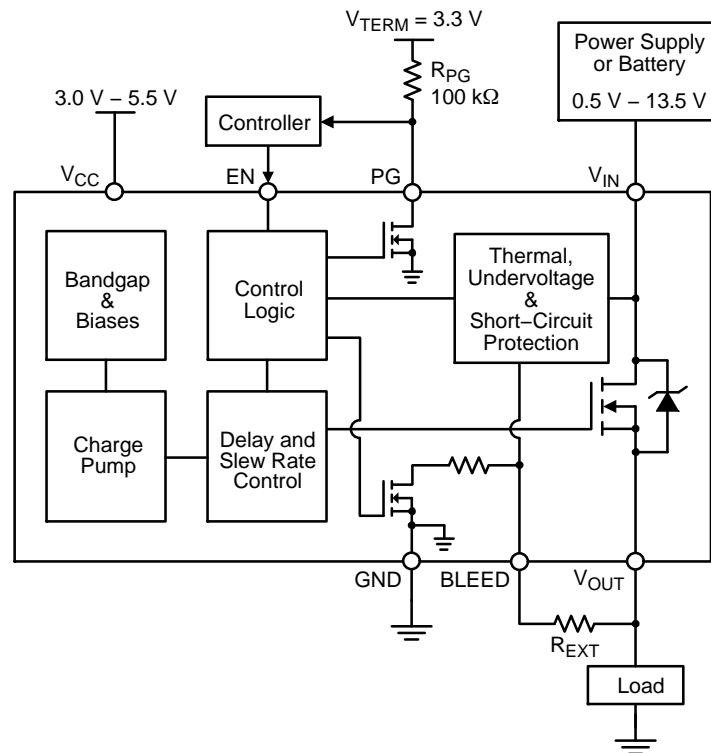
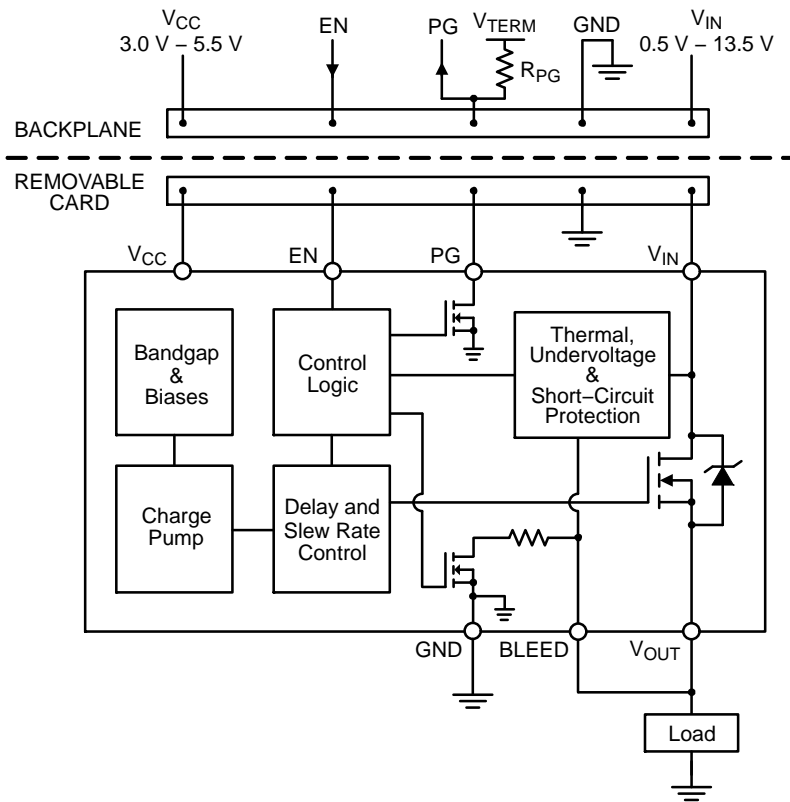

Figure 3. NCP45522 Typical Application Diagram – Load Switch
Figure 4. NCP4522 Typical Application Diagram – Hot Swap
It is required that the BLEED pin be connected to V_{OUT} either directly (as shown in Figures 4 and 7) or through an external resistor, R_{EXT} (as shown in Figures 3 and 6). R_{EXT} should not exceed 1 k Ω and can be used to increase the total bleed resistance.
The NCP45522 devices have a power good output (PG) that can be used to indicate when the gate of the MOSFET is fully charged. The PG pin is an active-high, open-drain output that requires an external pull up resistor, R_{PG} , greater than or equal to 1 k Ω to an external voltage source, V_{TERM} , that is compatible with input levels of all devices connected to this pin (as shown in Figures 3 and 4).
Once active, the circuitry monitors the difference in the voltage on the V_{IN} pin and the voltage on the BLEED pin. In order for the V_{OUT} voltage to be monitored through the BLEED pin, it is required that the BLEED pin be connected to V_{OUT} either directly (as shown in Figures 4 and 7) or through a resistor, R_{EXT} (as shown in Figures 3 and 6), which should not exceed 1 k Ω . With the BLEED pin connected to V_{OUT} , the short-circuit protection is able to monitor the voltage drop across the MOSFET.